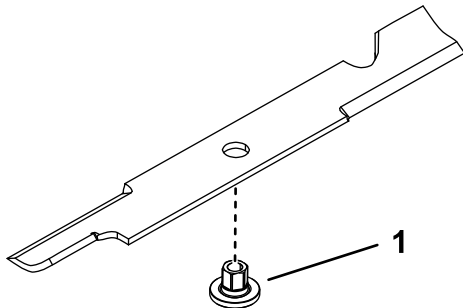

Figure 98
1. Install the bushing through the blade with the bushing flange on the bottom (grass) side of the blade (Figure 98).